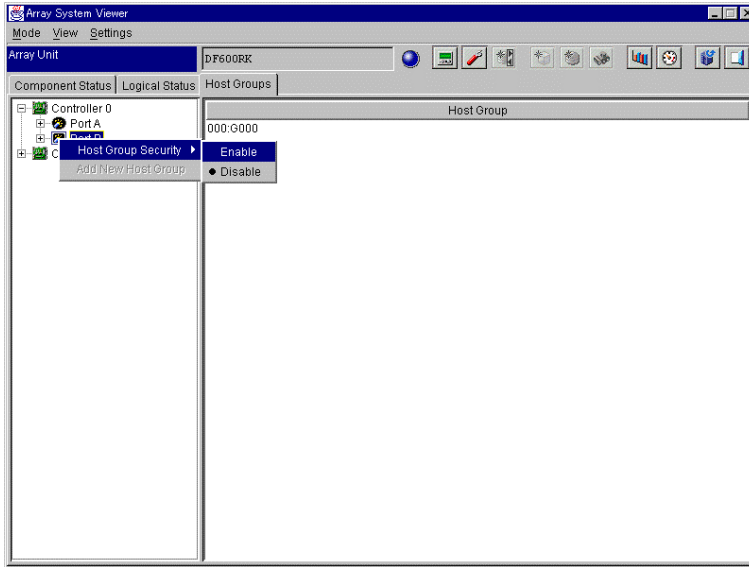

Figure 3.1 Setting the Host Group Security in the Context Menu
4. Select **Port A** or **Port B** in **Controller 0** or **Controller 1**. Right-click the icon of the selected Port (a context menu appears). In the drop down menu, select **Enable/Disable** (see Figure 3.1).